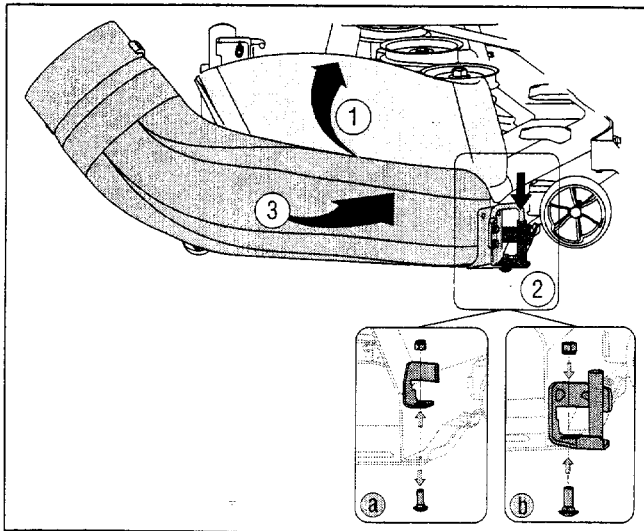

Figure 4
- Raise the deck to its highest position by placing the lift lever in the top notch on the right fender, See Step 1 in Figure 4.
- Remove the chute stop bracket attached to the mower deck. The bracket is held to the deck with a bolt and nut, See Step 2a in Figure 4.
- Install the new chute stop bracket using the carriage bolt and hex lock nut provided, See Step 2b in Figure 4.
- While raising the chute deflector on the deck, angle the front corner of the discharge chute over the stop assembly and then slide the mounting rod into the stop assembly. See Step 2 in Figure 4.
- Rotate the discharge chute around the deck so the front edge fits snugly around the cutting deck opening, Step 3 in Figure 4.